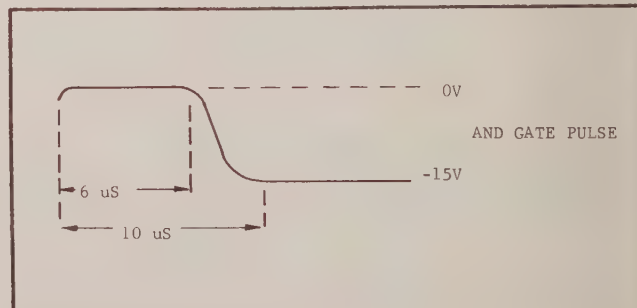

FIGURE 32. AND Gate Pulse.
3. Less than a 2 microsecond up-time and greater than an 8 microsecond drop-time is not satisfactory. Nominal values are listed in Figure 32. Values around these should be observed.